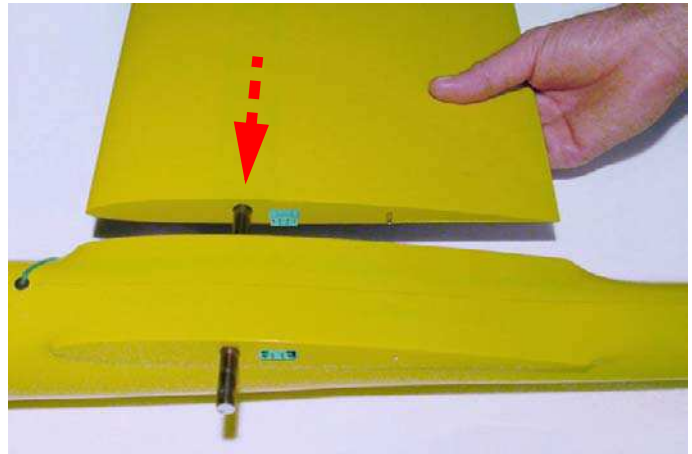

Fig.133: Insert the wing panel.
- insert the wing rod in the hole on the root of the wing (see figure 133);